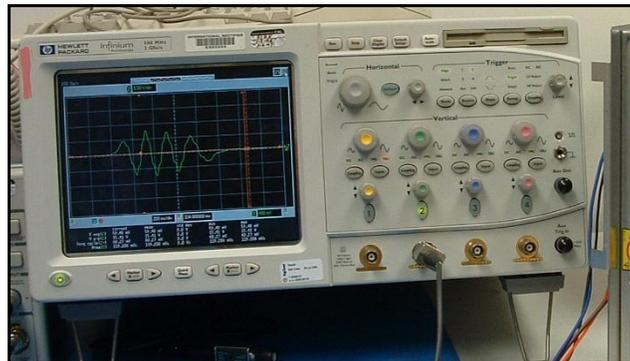

Figure 3—Counting the Number of Poles. This Motor has 8 Poles.
3. Motor Poles— Connect two phases of the motor to an oscilloscope. Turn the motor through one revolution and record the back-emf waveform on the 'scope. Count the total number of positive and negative peaks, which should be an even number. Figure 3 shows an 8-pole motor. (It can be difficult to get exactly one revolution without extra peaks. One trick is to turn the motor through several revolutions and then divide by the number of revolutions.)